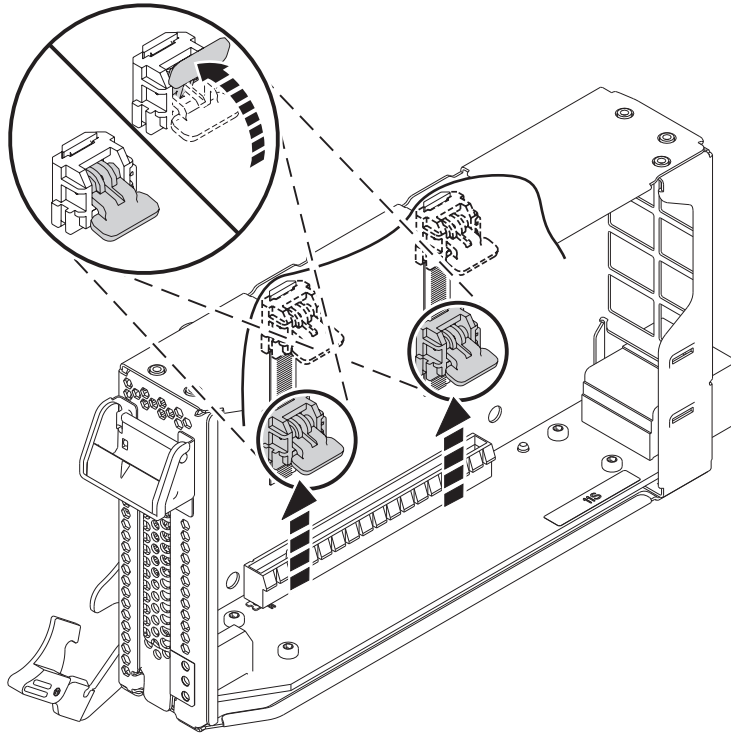

Figure 28. Unlocking the cassette ratchets
- a. Unlock both the cassette ratchets by rotating them, as shown in Figure 28 on page 28.
- b. Push up the cassette ratchets to the top edge of the cassette, as shown in Figure 28 on page 28.